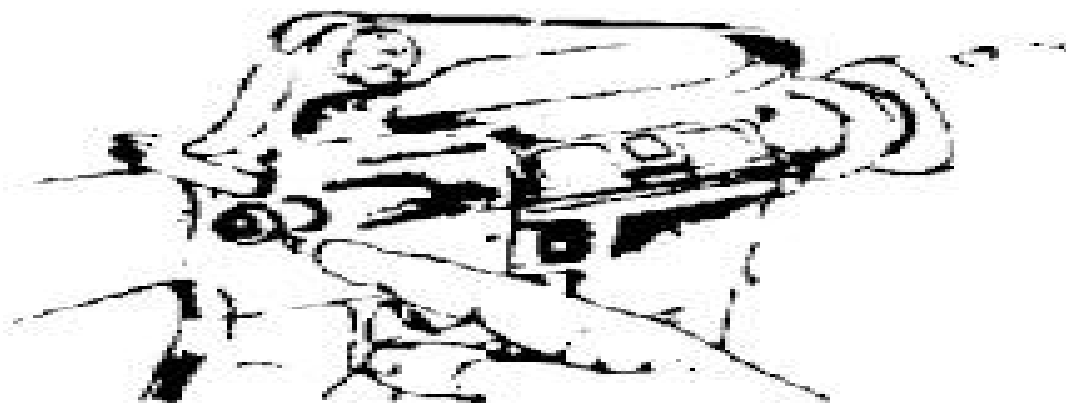

Figure E-37. Seating the takedown pin.
- n. Close the upper and lower receiver groups, seating the takedown pin, and ensuring the selector switch is on safe (figure E-37)